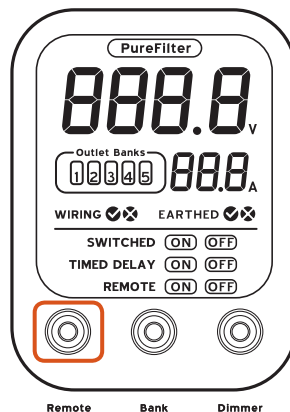

Fig. 3b
- B. Press the "Remote" button on the front of the Power Console to turn on the remote function. The LCD display should read "REMOTE ON". (Fig. 3b)